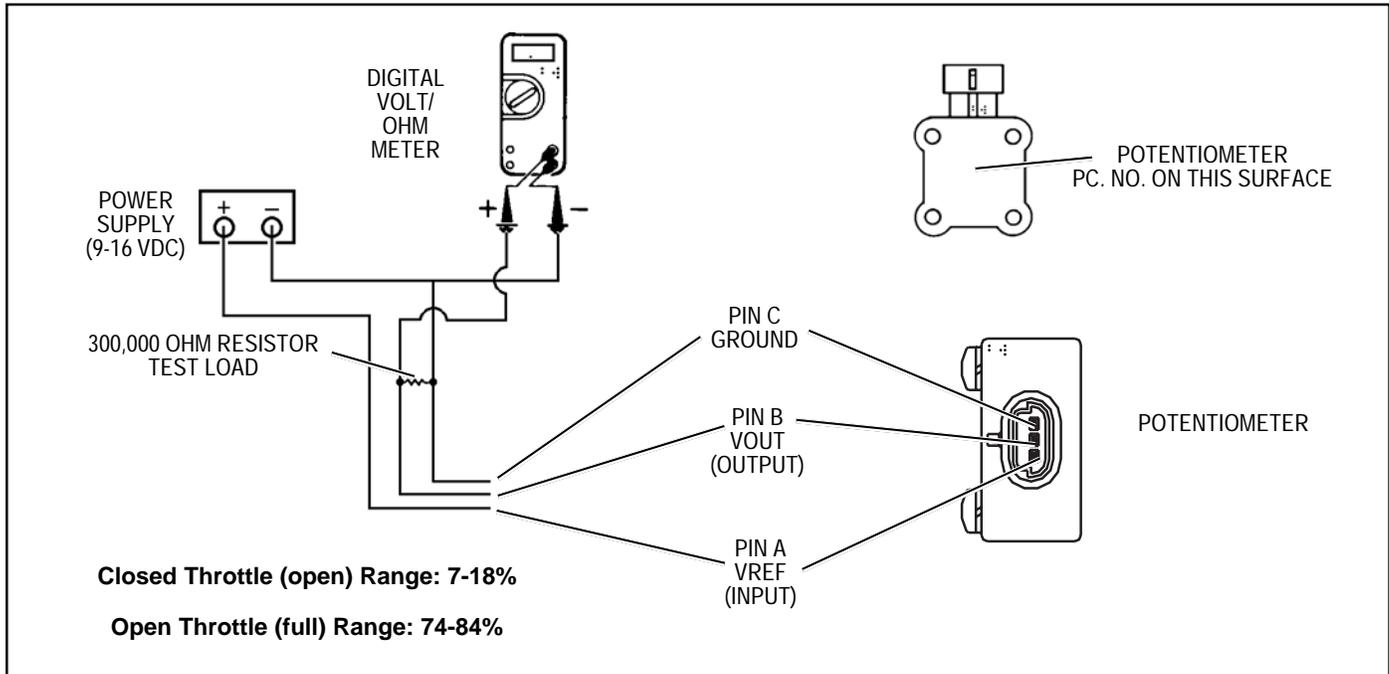

FIGURE 6 - ELECTRICAL TEST SCHEMATIC FOR THE DETROIT DIESEL CONNECTOR
- b. Connect the potentiometer or position sensor to the volt meter and power supply as shown in Figures 6, 7 or 8, depending on the model. **Note:** The power supply needs to be 5 VDC. Do not exceed this voltage.